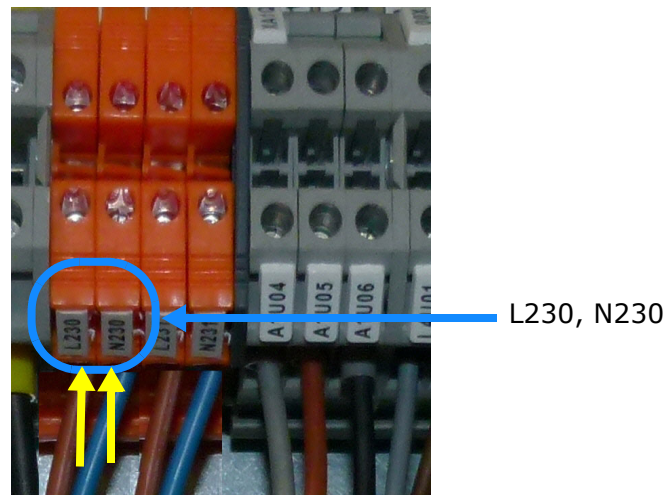

Figure 1-15: 230v power supply
1. Connect the two 230v power supply wires to the terminal block, Figure 1-15.